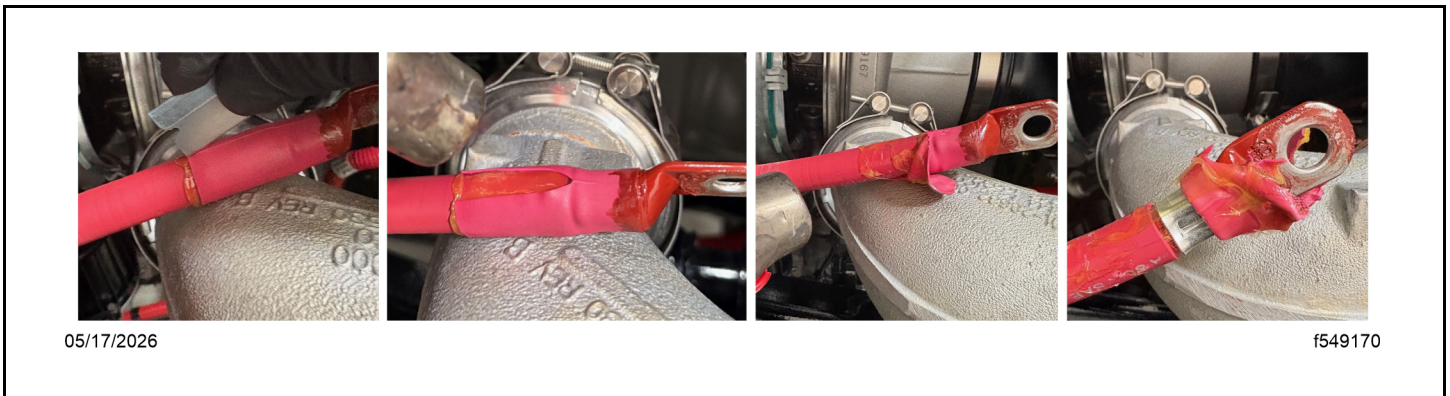

Fig 130, Heat Shrink Removal
- b. Remove the original heat shrink. To do so, heat it, score it, and continue to heat it until the score splits and the adhesive softens. See Fig. Fig. 130.